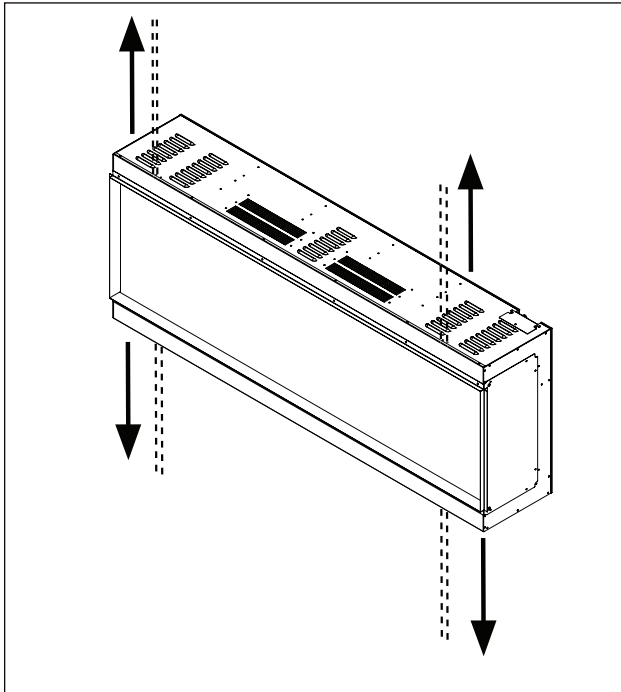

Fig. 1
1. Remove the 8 screws and washers from the top and bottom of the appliance (**Fig. 1**).